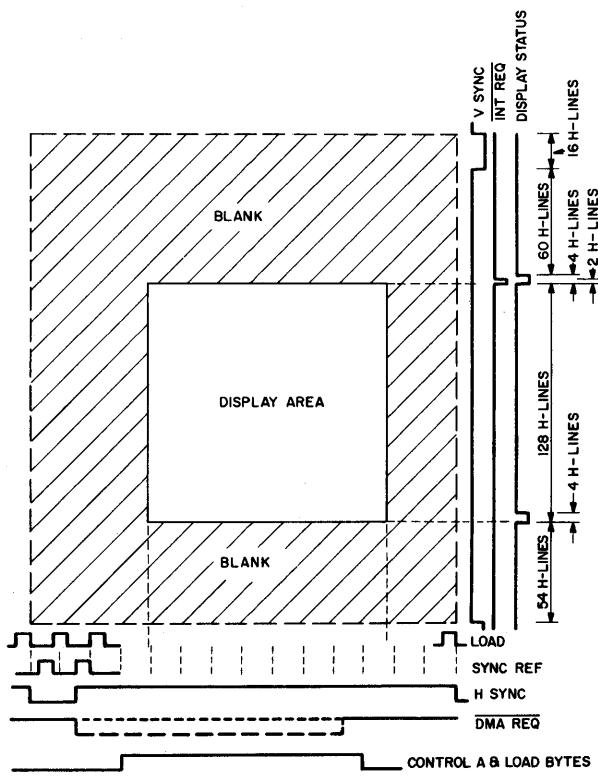

Fig. 5 – Spatial diagram of one video display field (not to scale).
The CDP1861C generates an interrupt request (INT REQ) once per field, 60 lines after the trailing edge of vertical sync and two lines before the raster has reached a "display window" (see Fig. 5). This request alerts the CDP1802 (or other control system) to prepare for DMA (direct memory access) activity. The CDP1861C DISP STATUS output goes low during the 4 lines before the display window, and again during the last 4 lines of the window. This signal may be used to give early warning of the display window and to release the control system from monitoring the DMA activity.
For the 128 x 64 display, the CDP1802 software requirement is straightforward. The DISP STATUS/EF1 line is not required, and EF1 may be used for other purposes. A simple interrupt routine merely resets the DMA pointer, RO, to the beginning of the display buffer area (see Fig. 5)—note the 3-cycle NOP instruction at the beginning which compensates for the 1-cycle interrupt. The first burst of eight DMA cycles occurs just as this routine finishes, as indicated by the bracket following the RETURN instruction (70). Exactly 29 cycles separate the interrupt request cycle and the first DMA burst. The interrupt routine must last at least 28 cycles, because the interrupt request line is held up that long by the CDP1861C.